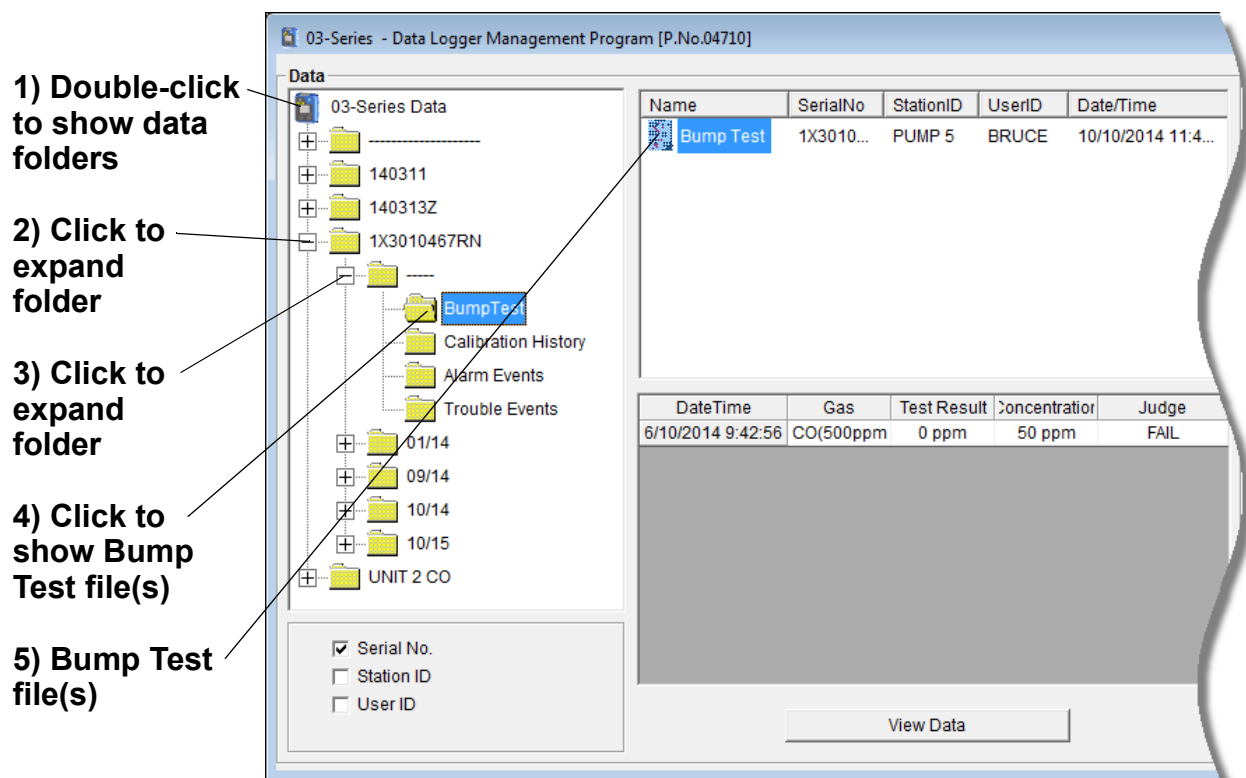

Figure 19: Data Window - Selecting Bump Test Files
8. If you click the **Summary** button, the Data Window will split into two frames, one above the other, with the bump test list in the lower frame and the summary information shown in the upper frame. The summary information is the same as the information shown in the upper right frame in Figure 19. To return to the one-frame format, click **Summary** again.